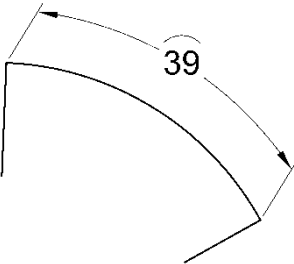

Figure 2-12: Arc length
d) The length of an arc is dimensioned using the arc length symbol as shown in Figure 2-12.